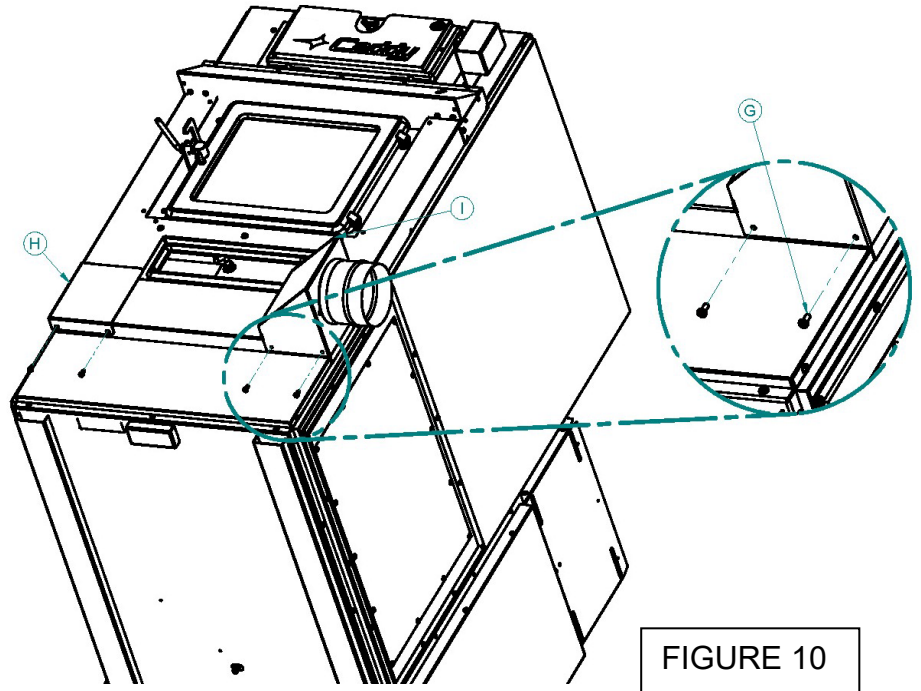
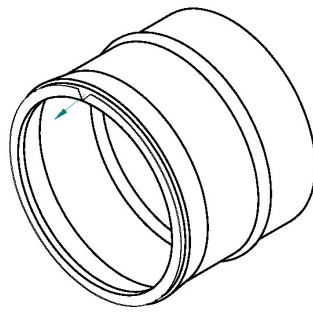

FIGURE 10
FIGURE 11A
Step 10: Secure the lid of the fresh air intake adapter (H) and the right fresh air intake adapter box (I) to the lower part of the fresh air intake adapter using two supplied screws (G) each, as shown on figure 10.
Step 11: Cut a «V» shape notch using sheet metal scissors, as shown on figure 10. Use pliers to bend a part of the lip of the adapter towards the exterior, as shown by the arrow on figure 11A.